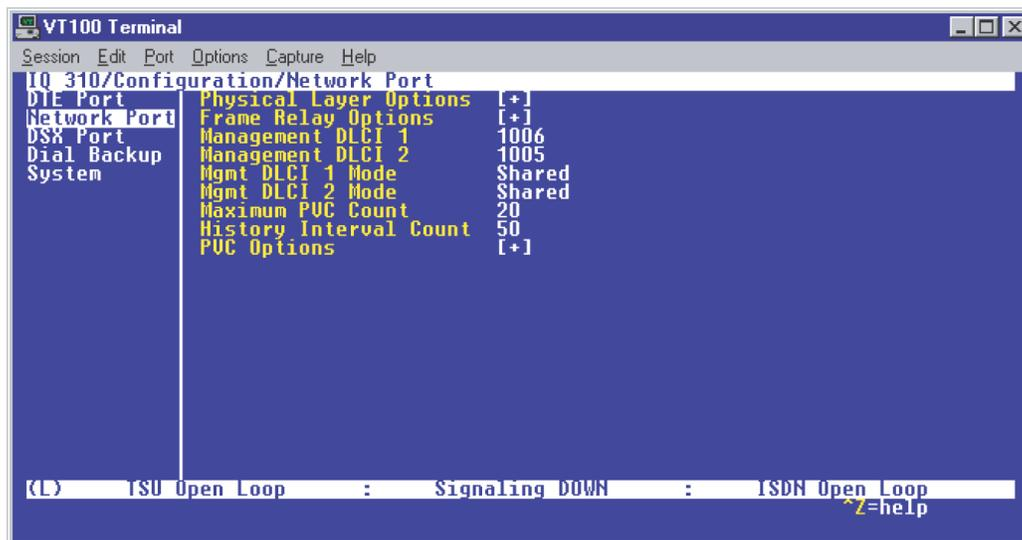

Figure 18. Network Port Menu
2. Use the right arrow key to select **NETWORK PORT**; then press **<ENTER>**. The screen shown in Figure 18 will appear.